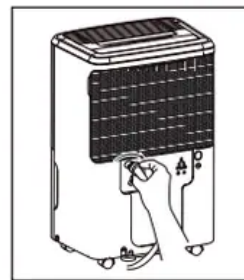

fig. 3
4. Screw the garden hose onto the threaded portion of the drain connector. (fig.3)